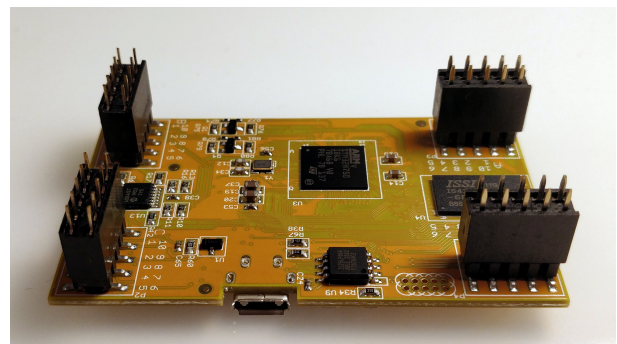

Figure 2: Connectors mounted on the submodule
1. Mount the four female 2×5 connectors on the pins of the Daisy Patch Submodule. See figure 2. This will make it easier to align all the connectors properly.